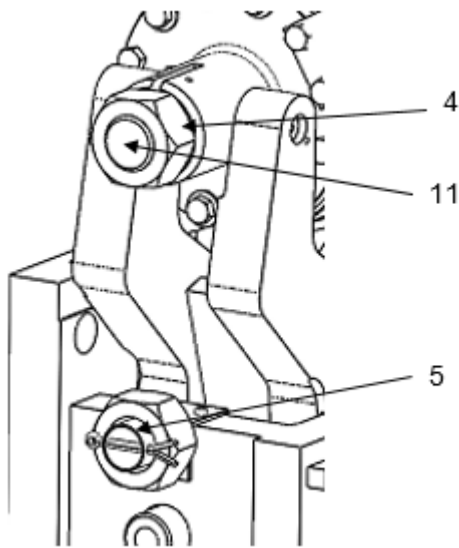
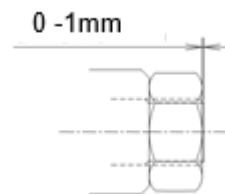

Fig. 5.1
Fig. 5.2
2. Tighten the nut **4** onto the screw **11** (see Fig.5.1). The rail brake is fully released when the tip of the screw is flush with the nut (see Fig.5.2).